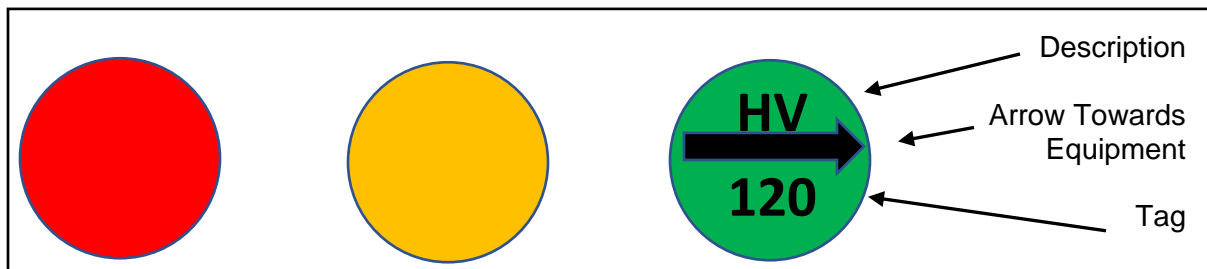

Figure 1
- .4 Label shall follow the layout shown in Figure 1 and be oriented to indicate the equipment location. The tag number shall match the as-built drawings.